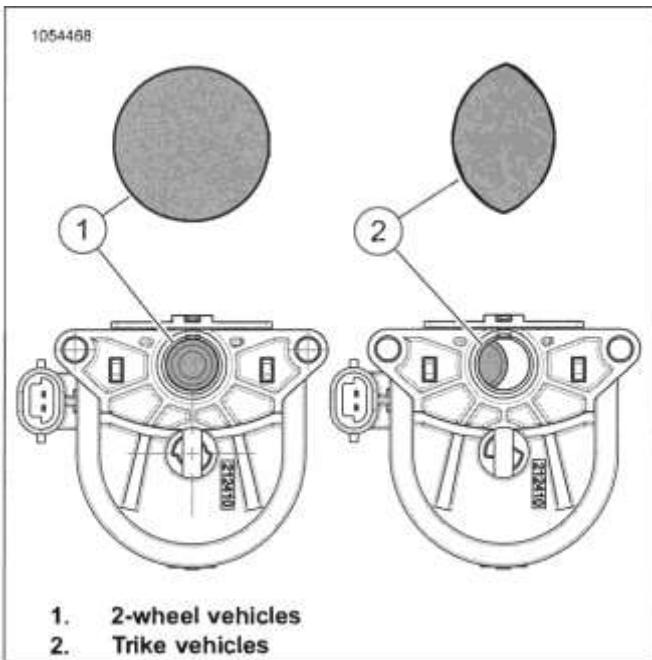

Figure 8-11. Fork Lock Pin
- *See Figure 8-11. 2-wheel vehicles (1) have a pin that is round at the end. Trike models (2) have a pin that is ellipse-shaped. The 2-wheel style will not function if installed on a Trike. A Trike style will function on a 2-wheel vehicle however, excess steering rotation will result in the locked position.*